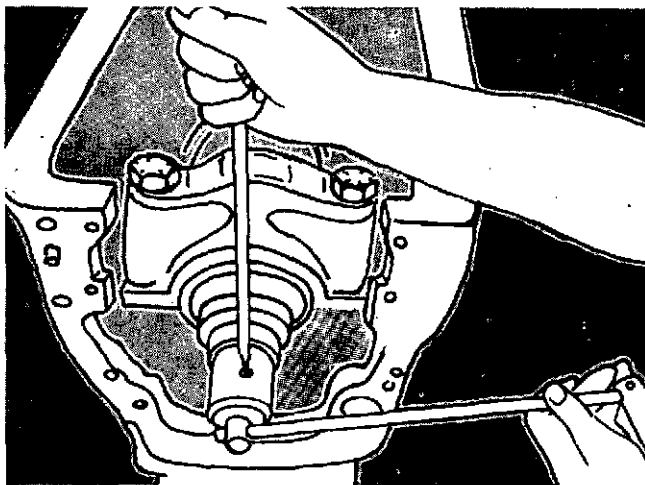

Fig. 1-47. Install The Drive Handle.
6. Install the T-handle drive assembly in the end of the boring bar. Tighten the setscrew in the bar, Fig. 1-47.